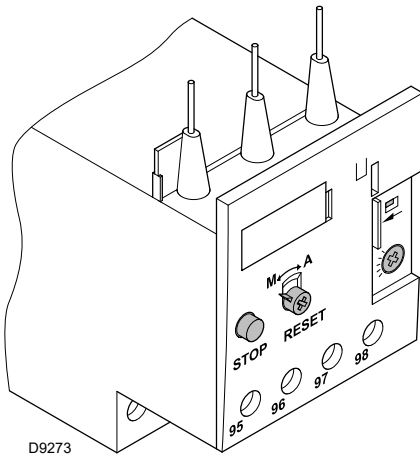

Fig. 34
The electro-mechanical thermal relay (Fig. 34) is used to avoid damage to the motor owing to a strong increase in absorption or the lack of a phase.
- To reset, in the case of an intervention of the thermal relay, press the button **"RESET"** (Fig. 34).
- The button **"STOP"** (Fig. 34) opens the NC (95-96) contact and stops the motor.